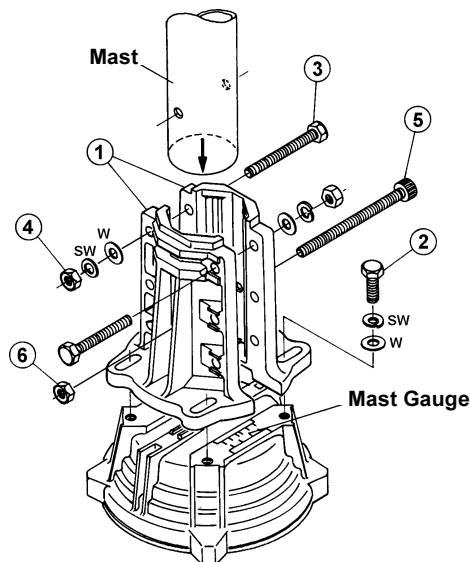
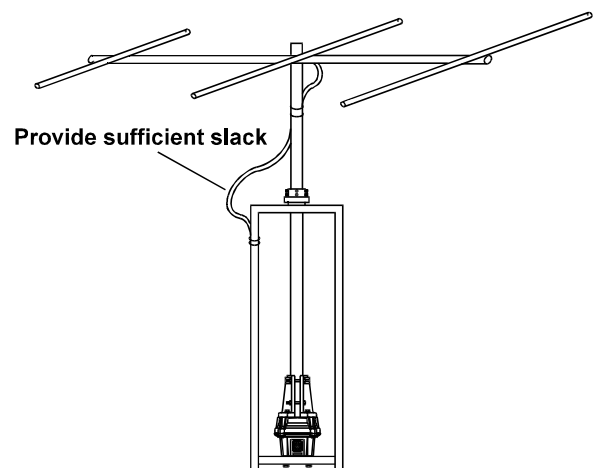

Figure 13
Figure 16
4. Partly tighten the mast clamp ① to the rotator housing using the supplied M8 x 30 bolts ②, spring washers and flat washers (see Figure 13).
5. Using a "gin pole" or other raising fixture, insert the antenna mast through the bearing from above, and set the mast in the rotator's mast clamps, then partly tighten the mast clamps using the supplied M8 x 70 bolts ③, spring washers and flat washers.
6. Pass the supplied M8 x 95 screw ⑤ through the mast clamps and through the mast, then partly tighten it using the supplied nut ⑥.
11. Provide sufficient slack in the coaxial cable such that the antenna can rotate over its full 450° range without putting any tension on the coax (see Figure 16). Secure the coax to the tower, using electrical tape and/or UV-resistant cable ties.